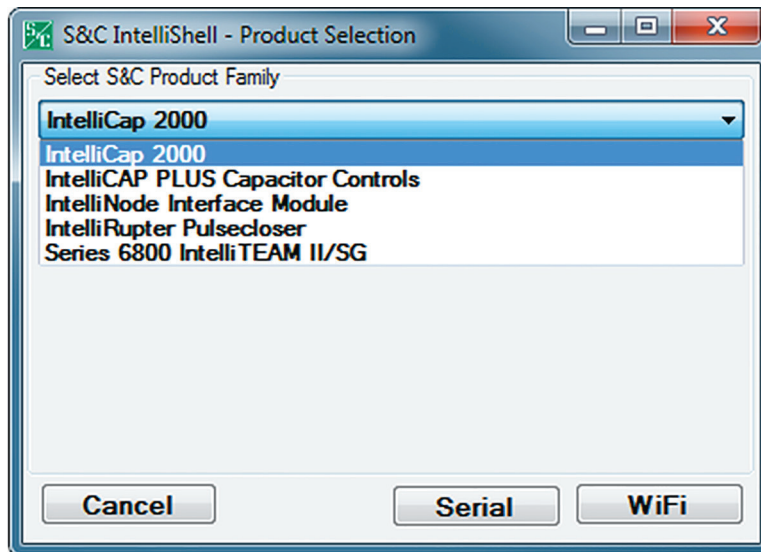

Figure 3. IntelliShell—Product Family selection dialog box.
STEP 5. Select the **IntelliCap 2000** option from the **Select S&C Product Family** drop-down menu, and click on either the **Serial** or the **Wi-Fi** button. See Figure 3 on page 9.